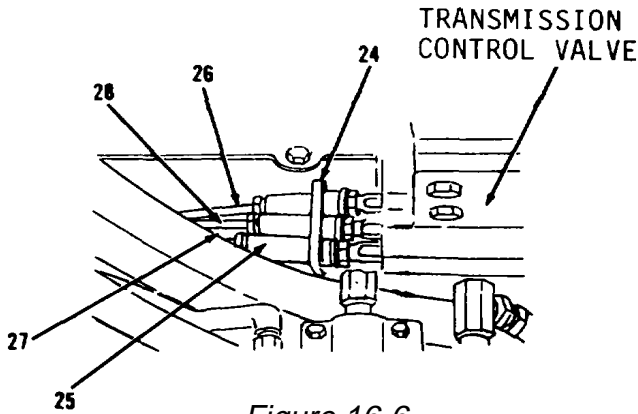

Figure 16-6.
- 6. Loosen three nuts (23) and slide back on control cable assemblies (26, 27 and 28).
- 7. Slide back retainer (24) and three couplings (25) on cable assemblies (26, 27 and 28, Figure 16-6).